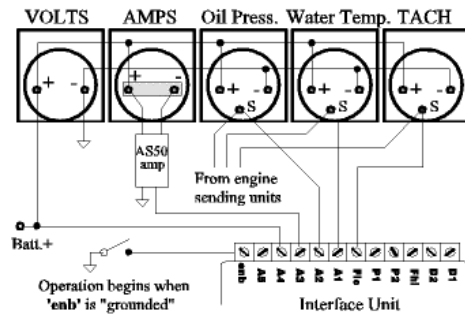

Figure 6. Example Installation with Vessel Gauges
- Figure 6 – Example Installation with Vessel Gauges
Connections to the interface unit can be made at the "sense" terminals of existing gauges. A typical connection diagram is shown in Figure 6. The Vessel/Engine Monitor has several setup (programming) options. These include defining the ON/OFF alarm characters, and setup of the "RPM" sentence. These options are described in detail in Appendix A.